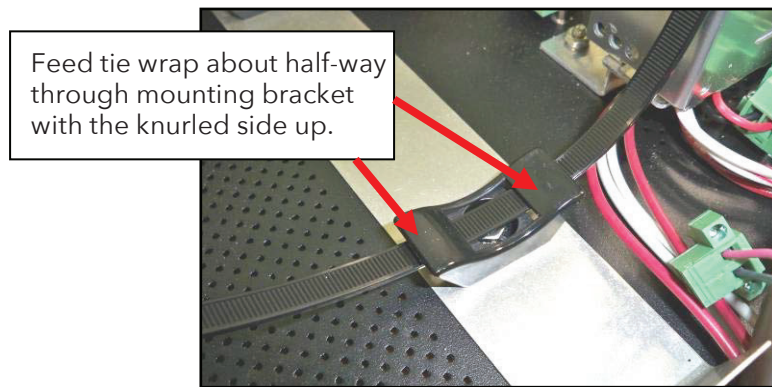

Figure 3. ROUTING THE TIE WRAPS THROUGH THE MOUNTING BRACKETS.
10. With the knurled side up, route the tie wraps supplied with this kit through the canister mounting brackets located on the floor of the unit. Try to center the tie wrap in the bracket. Refer to Figure 3.